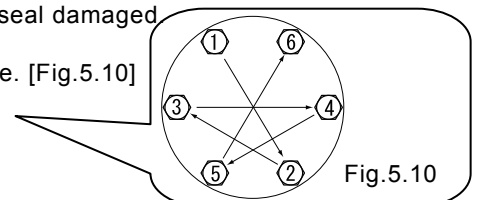

Fig.5.10
- Tighten the bolts gradually in a diagonal sequence with even torque. [Fig.5.10]